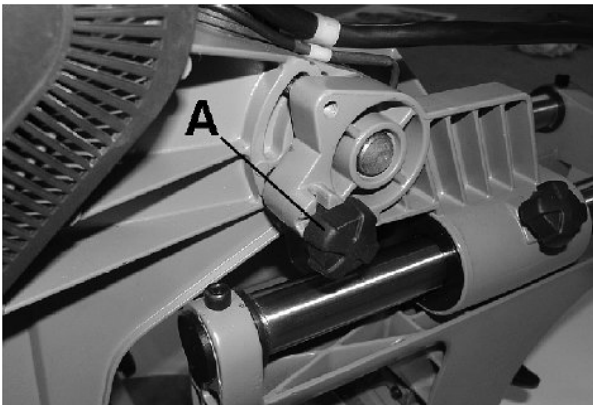

Fig. 5: Saw head locking device
Step 4: Pull out the locking knob on the left side of the saw head locking device by approx. 1 cm (Fig. 5), turn it 90° so that the locking pin is in a vertical position.